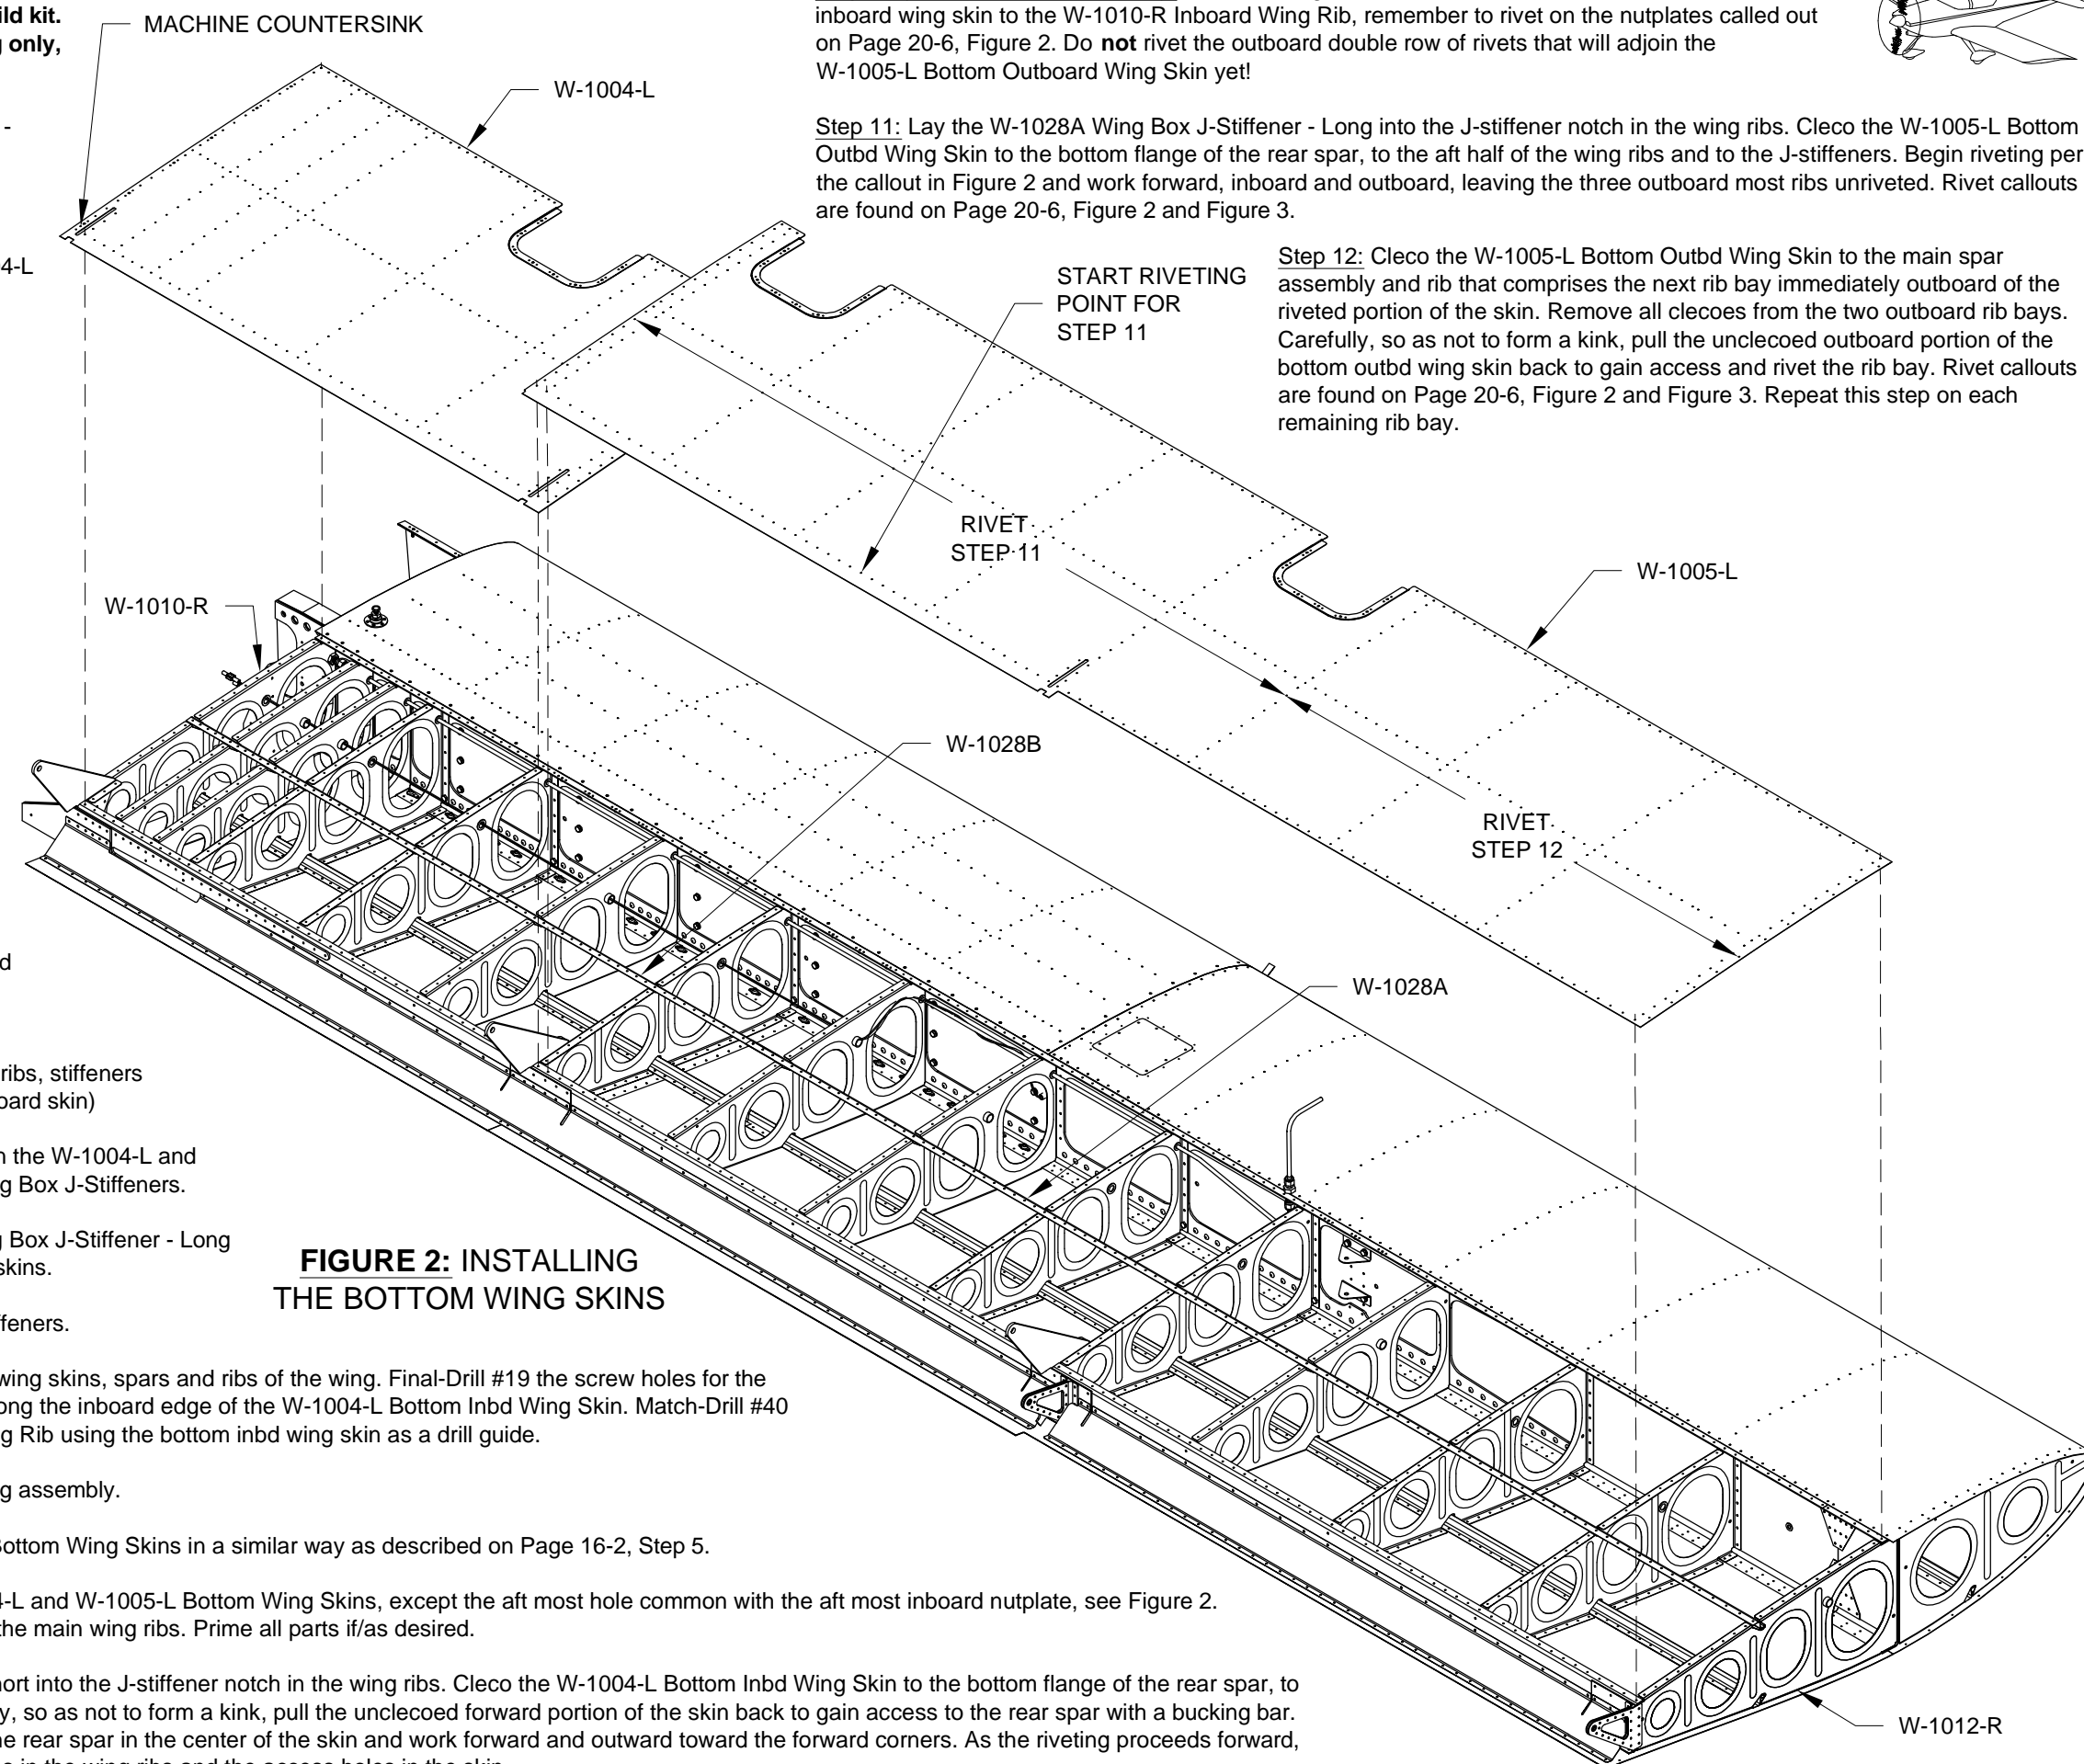

FIGURE 2: INSTALLING THE BOTTOM WING SKINS
Step 10 (Standard Kit): Lay the W-1028B Wing Box J-Stiffener - Short into the J-stiffener notch in the wing ribs. Cleco the W-1004-L Bottom Inboard Wing Skin to the bottom flange of the rear spar, to the aft half of the wing ribs, and to the wing box J-stiffener. Carefully, so as not to form a kink, pull the unclecoed forward portion of the skin back to gain access to the rear spar with a bucking bar. Rivet callouts are found on Page 20-6, Figure 2. Begin riveting at the rear spar in the center of the skin and work forward and outward toward the forward corners. As the riveting proceeds forward, gain access for bucking the rivets through the larger lightening holes in the wing ribs and the access holes in the skin.
Step 10 (Standard Kit - Continued): When riveting the bottom inboard wing skin to the W-1010-R Inboard Wing Rib, remember to rivet on the nutplates called out on Page 20-6, Figure 2. Do **not** rivet the outboard double row of rivets that will adjoin the W-1005-L Bottom Outboard Wing Skin yet!
Step 11: Lay the W-1028A Wing Box J-Stiffener - Long into the J-stiffener notch in the wing ribs. Cleco the W-1005-L Bottom Outboard Wing Skin to the bottom flange of the rear spar, to the aft half of the wing ribs and to the J-stiffeners. Begin riveting per the callout in Figure 2 and work forward, inboard and outboard, leaving the three outboard most ribs unriveted. Rivet callouts are found on Page 20-6, Figure 2 and Figure 3.
Step 12: Cleco the W-1005-L Bottom Outboard Wing Skin to the main spar assembly and rib that comprises the next rib bay immediately outboard of the riveted portion of the skin. Remove all clecoes from the two outboard rib bays. Carefully, so as not to form a kink, pull the unclecoed outboard portion of the bottom outboard wing skin back to gain access and rivet the rib bay. Rivet callouts are found on Page 20-6, Figure 2 and Figure 3. Repeat this step on each remaining rib bay.